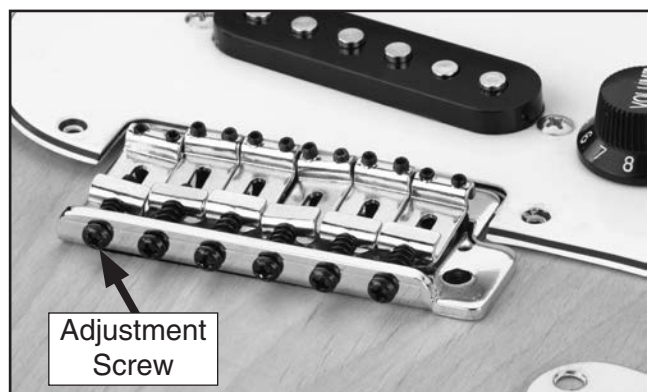

Figure 41. Example of saddle adjustment screw.
2. Now pluck the string while holding it fretted at the twelfth fret. If this note is sharper than the note played in **Step 1**, move the saddle away from the neck by turning the saddle adjustment screw (**Figure 41**) clockwise. If this note is flat in comparison, move the saddle toward the neck.